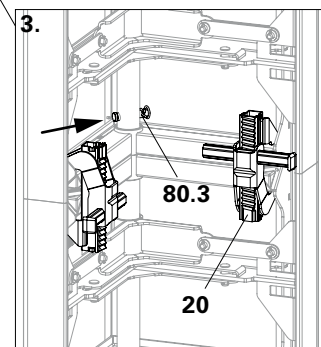

Fig. A11.11c
4. Connect shaft corners with two Alignment Couplers BFD (20). (Fig. A11.11c)